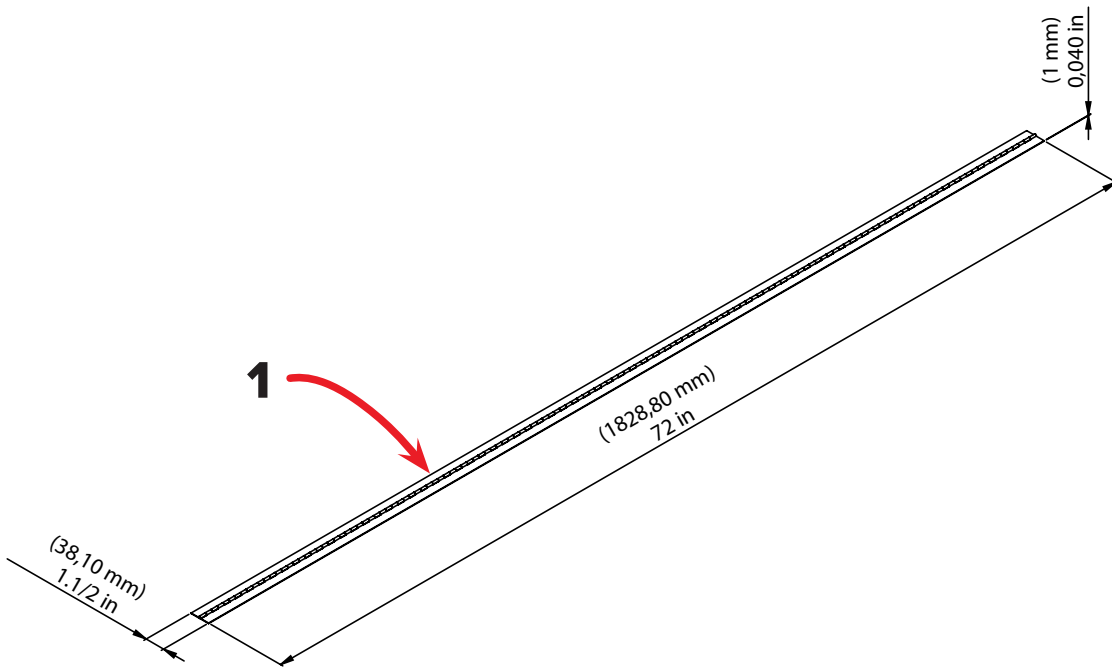

FIGURE 3-1 - CONTINUOUS HINGE
- MS20257 P4 (figure 3-1), where each Continuous Hinge is composed of two parts with ½ Hinge Bar in anodized aluminum and steel Pin;